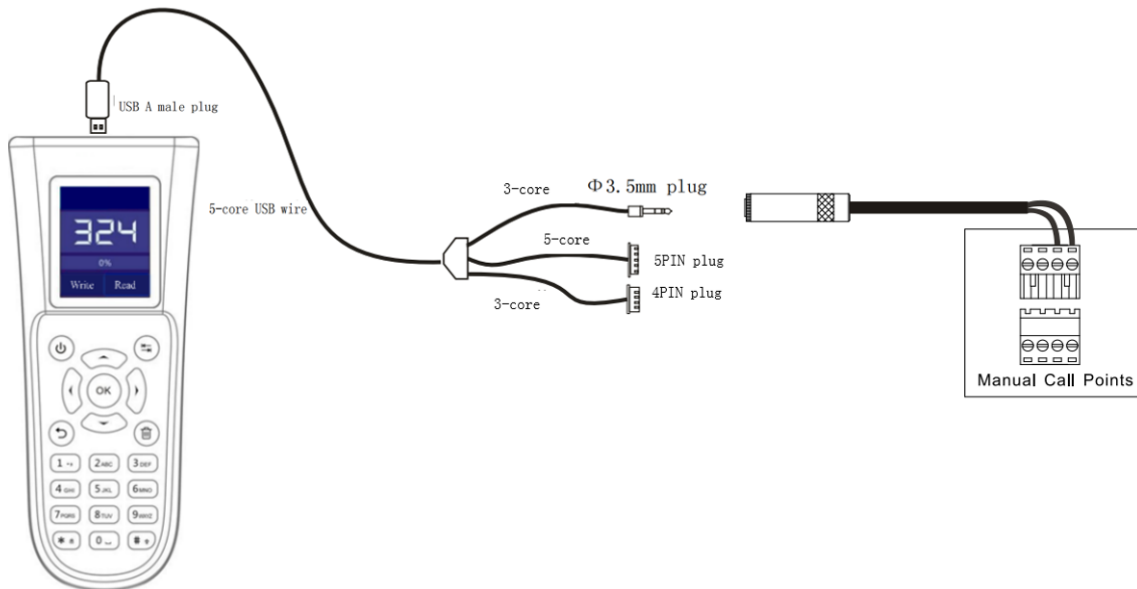

Figure 4-3
- (2) Insert the $\Phi 3.5\text{mm}$ earphone plug into the adapter with terminal block, it can be operated for reading and writing the address of the manual call point. See figure 4-3: